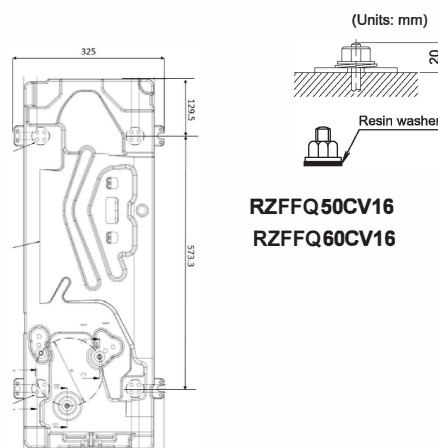

Fig : 1 BOTTOM VIEW
- In accordance with the foundation drawing in Fig. 1, fix the unit securely by means of the foundation bolts. (Prepare 4 sets of M12 foundation bolts, nuts and washers each which are available on the market.)
- Fix the outdoor unit to the foundation bolts using nuts with resin washers. (See the left-hand of Fig. 1 drawing)